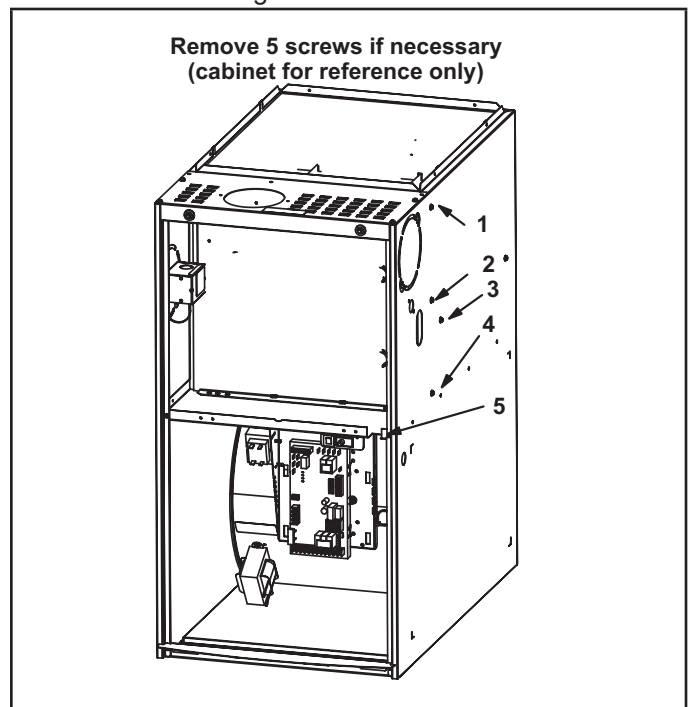

Figure 1
- 7 - Remove heat exchanger. It may be necessary to spread cabinet side to allow more room. If so, remove five screws from the left side or right side of cabinet. See figure 1.